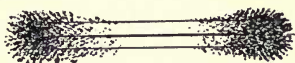
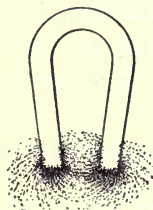

FIG. 68.—Bar Magnet with Iron Filings.
FIG. 69.—Horseshoe Magnet with Iron Filings.
**197. Shapes of Magnets.**—Magnets are of two shapes: straight or bar (Fig. 68) and horseshoe (Fig. 69). In every